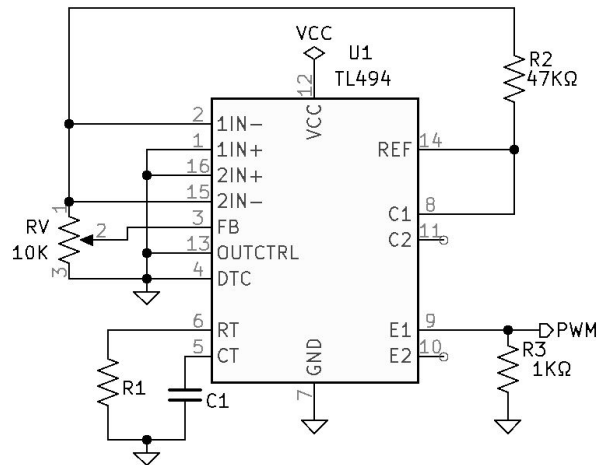

Figure 10.4: TL494 Test Circuit
3. See Figure 10.4 *TL494 Test Circuit*.